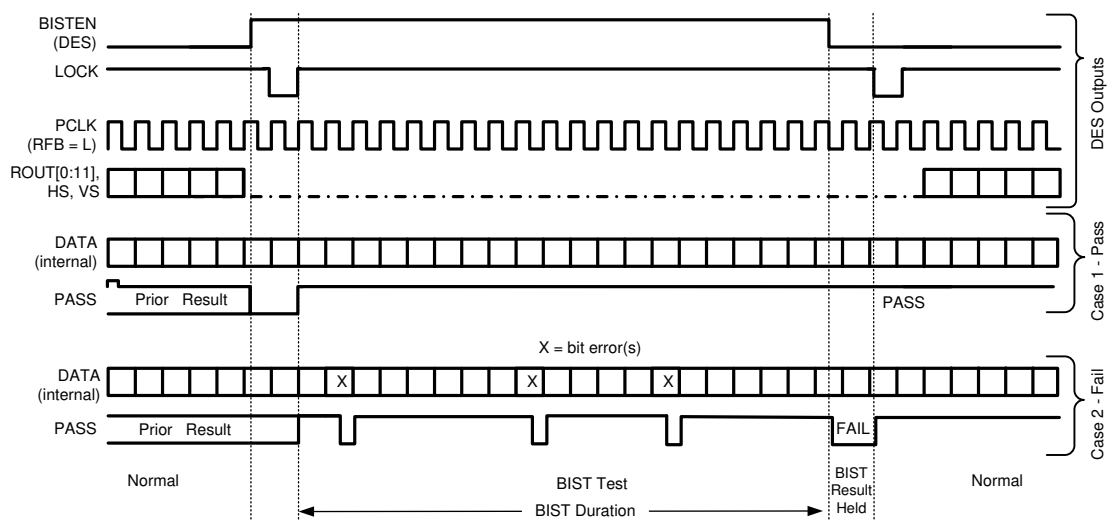

Figure 7-8. BIST Timing Diagram
Step 4. The link returns to normal operation after the deserializer BISTEN pin is low. Figure 7-8 shows the waveform diagram of a typical BIST test for two cases. Case 1 is error free, and Case 2 shows one with multiple errors. In most cases, it is difficult to generate errors due to the robustness of the link (differential data transmission etc.), thus they may be introduced by greatly extending the cable length, faulting the interconnect, or by reducing signal condition enhancements (Rx equalization).